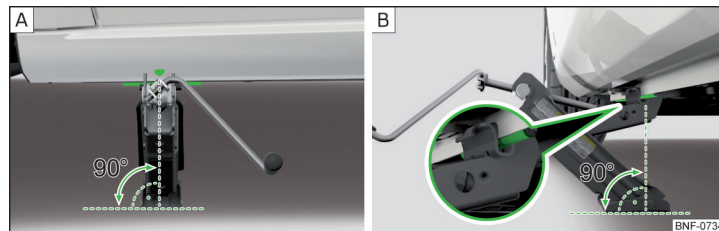

Fig. 123 **Principle sketch: Attach lifting jack**
- Support the base plate of the jack with its full area resting on level ground and ensure that the jack is located in a vertical position at the jacking point » [Fig. 123 - \[A\]](#).
- Position the lifting jack below the jacking point with the crank and move it up until its claw encloses the web » [Fig. 123 - \[B\]](#).